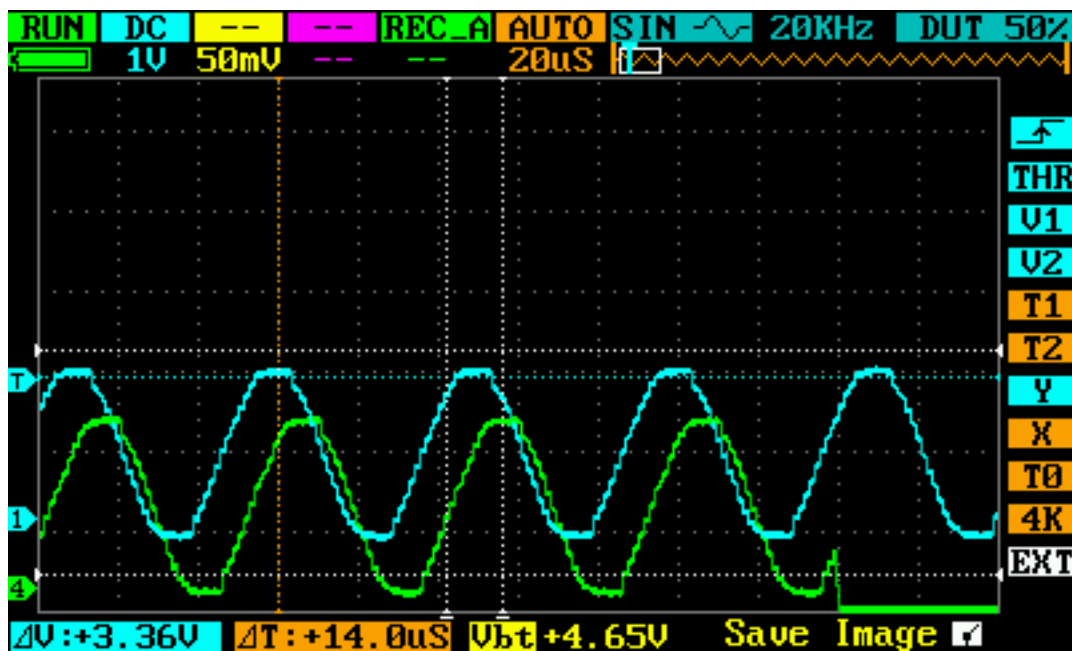

Figure 4.3
- Move P position Y to adjust horizontal level, to compare waveforms, as in Figure 4.3: